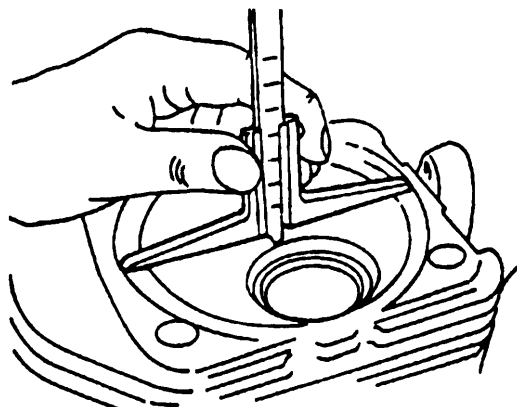

Figure 6-3. Checking Cylinder Head Seating Surface.
- e. Check that cylinder head seating surface (figure 6-3) is flat and square. Slight damage to seating surface can be ground.